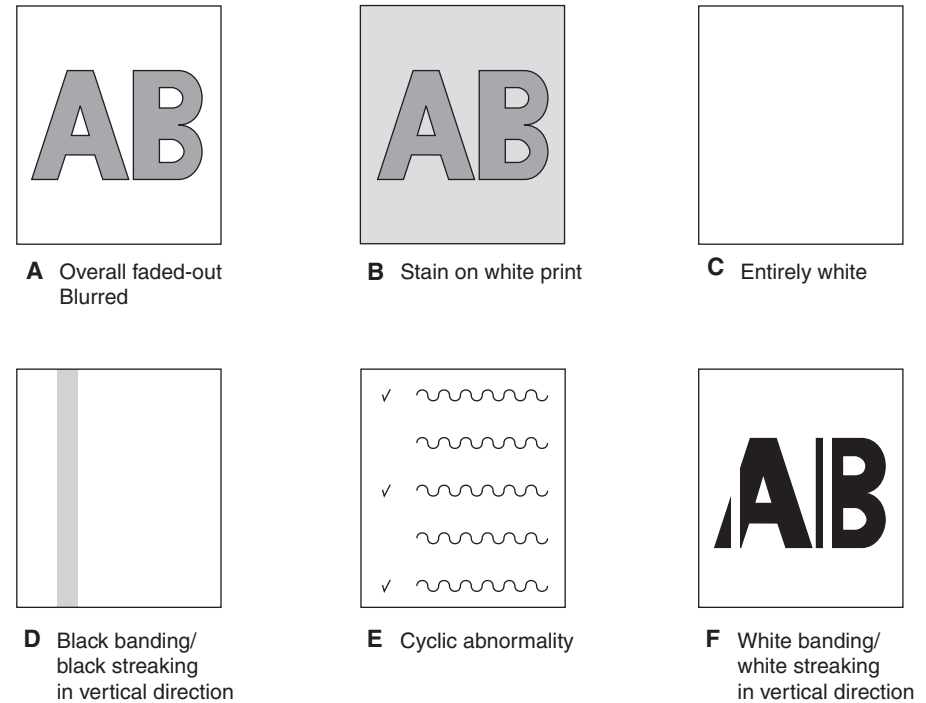

Figure 2-1
- (1) Color has faded-out and blurred entirely. (Refer to Figure 2-1 A.)2-74
- (2) Stain on white print. (Refer to Figure 2-1 B.).....2-75
- (3) White print (Refer to Figure 2-1 C.).....2-76
- (4) Black banding/black streaking in vertical direction.....2-77
- (4-1) Thin vertical line (with color) (Refer to Figure 2-1 D.).....2-77
- (4-2) Thin vertical line (without color) (Refer to Figure 2-1 F.).....2-77
- (5) Periodic abnormalities (Refer to Figure 2-1 E.).....2-77
- (6) Significant color misregistration2-78
- (7) Solid black printing.....2-78
2.5.6.(1) Color has faded-out and blurred entirely. (Refer to Figure 2-1 A.)
2.5.6.(2) Stain on white print. (Refer to Figure 2-1 B.)
2.5.6.(3) White print (Refer to Figure 2-1 C.)
(4-1) Thin vertical line (with color) (Refer to Figure 2-1 D.)
(4-2) Thin vertical line (without color) (Refer to Figure 2-1 F.)
2.5.6.(5) Periodic abnormalities (Refer to Figure 2-1 E.)